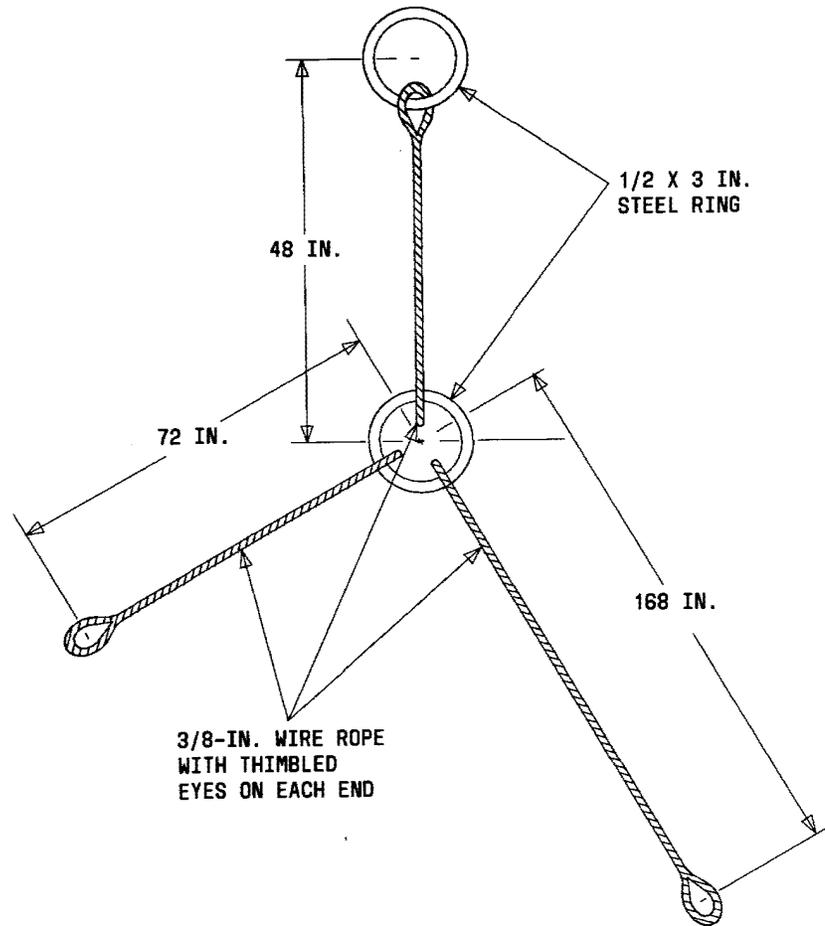

Fig. 15—Hoisting Sling
- (1) Gin pole and winch engine
- (2) Crane
- (3) Helicopter
- (4) Other suitable lifting equipment.
- (b) Hoisting sling in accordance with Fig. 15, or equivalent
- (a) Using 1/2-inch screw pin shackles, attach the hoisting sling (Fig. 15) to the lifting holes on the back of the antenna. Attach the 6-foot leg to the top antenna lifting hole; attach the 14-foot leg to the bottom antenna lifting hole. Attach the 4-foot leg to the load line from the hoisting equipment.